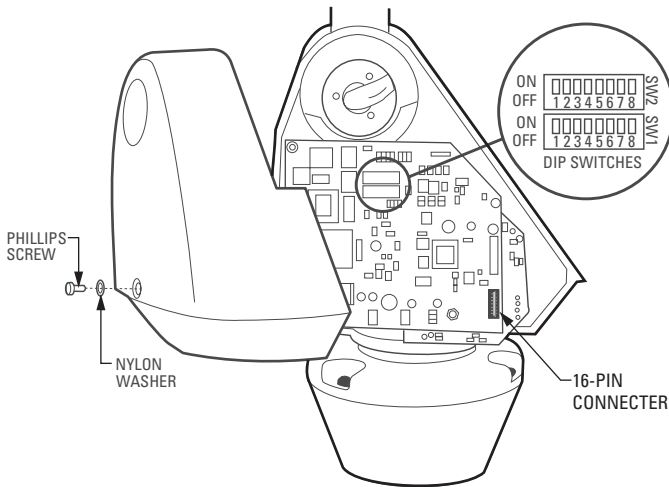
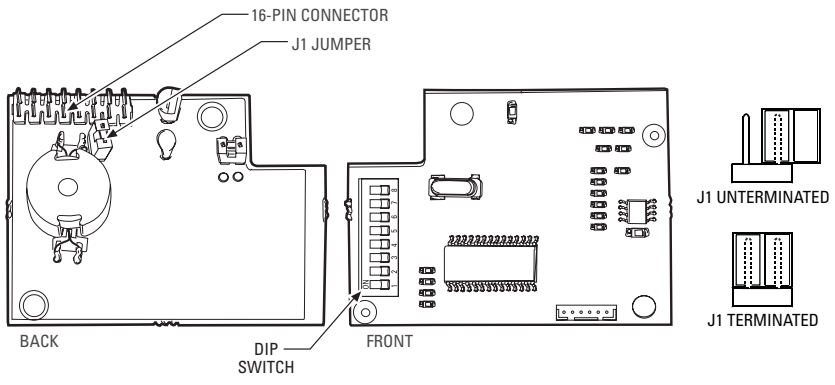
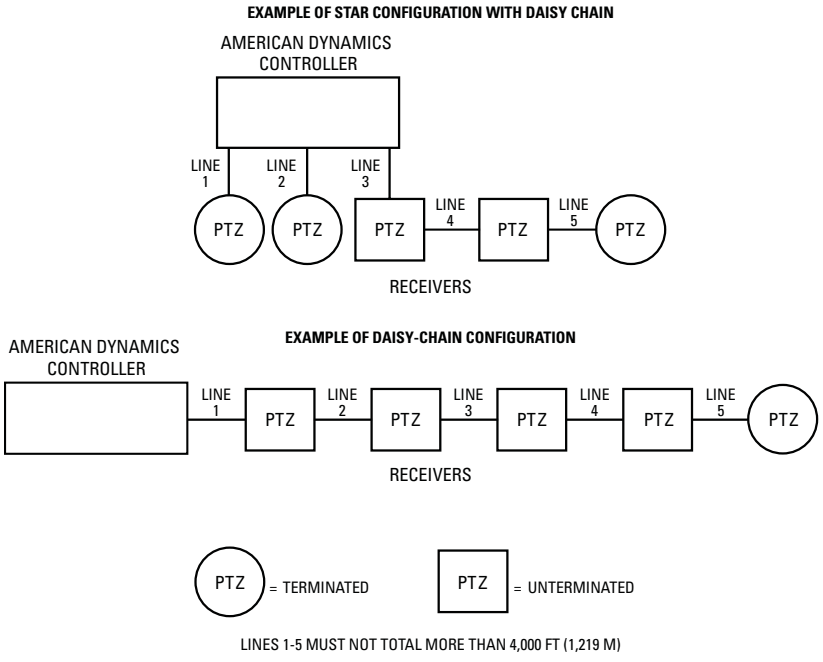

Figure 1. Esprit System Pan and Tilt
Figure 2. TXB-AD Translator Board Layout, Front and Back
Figure 3. Receiver Location
1. Turn off the power to the Esprit system. Refer to Figure 1 and do the following:
- Set the J1 jumper on the TXB-AD to the proper termination setting. The TXB-AD is shipped from the factory with the J1 jumper in the terminated position. To unterminate the unit remove the cover from the J1 jumper and then place the cover over one pin for storage. Refer to Figure 2 and Figure 3.
- Set DIP switches on the TXB-AD. Refer to Figure 2 and Table A.
4. Install the TXB-AD translator by inserting the 16-pin connector located on the back of the TXB-AD board into the mating connector on the Esprit system's board. Refer to Figure 1 and Figure 2.
For American Dynamics controllers with only 32 presets: Set SW1-5 to the ON position. Refer to Figure 1 for switch location.
2. Set the address for the Esprit positioning system. Refer to Table B and Table C in the *Appendix* for American Dynamics Camera Assignments and DIP switch settings. Refer to Figure 1 for DIP switch location.